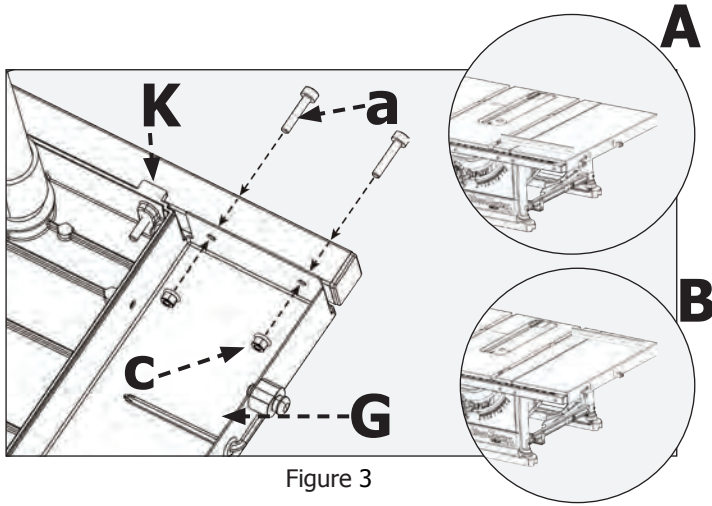

Figure 3
Insert (2) remaining M5 x 25mm hex socket cap screws (a) through the fence rail (K) and extension wing (G) and secure with (2) M5 keps nuts (c) as shown in Fig. 3. Use straightedge to ensure extension wing is level as shown in Fig. 3A and 3B.